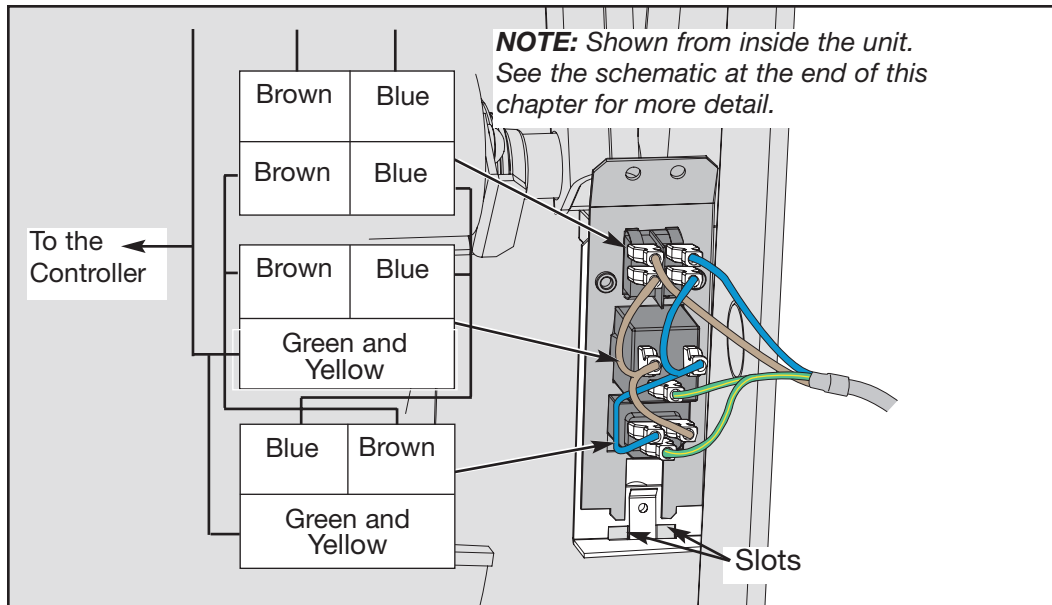

Figure 19
**M.** Verify the on/off switch is installed properly. See Figure 19.